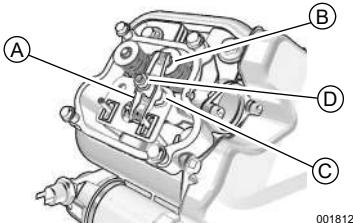
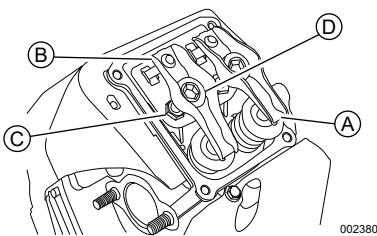

Figure 4-7. Valve Clearance Adjustment (10 kW)
Figure 4-8. Valve Clearance Adjustment (20–26 kW)
6. See **Figure 4-7** or **Figure 4-8**. Verify valve clearance between each rocker arm (A) and valve stem (B) with a feeler gauge.
See **Figure 4-7** or **Figure 4-8**. Proceed as follows to ad-just valve clearance: